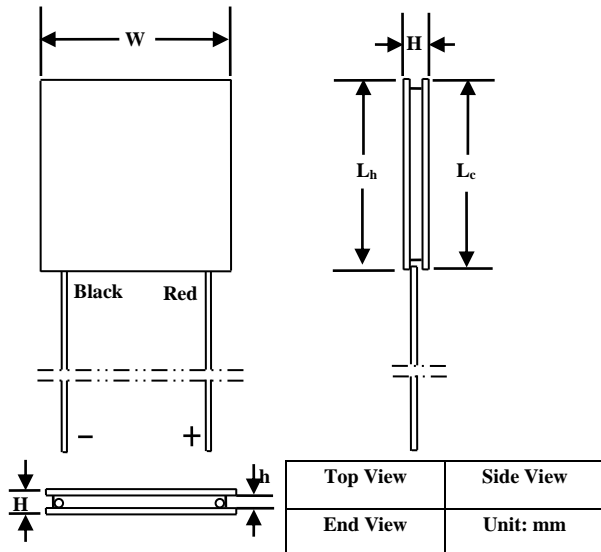

Figure 6. Mechanical Dimensions of Sealed ATE1-07
The ATE1-07 TECs come with 2 insulated lead wires. The positive wire is in red color and the negative wire is of black. The mechanical dimensions are shown in Figure 6 and Table 1.
**Note:** As Figure 6 shows, when the red lead wire is on the right, then the top surface is the cold side of the TEC.